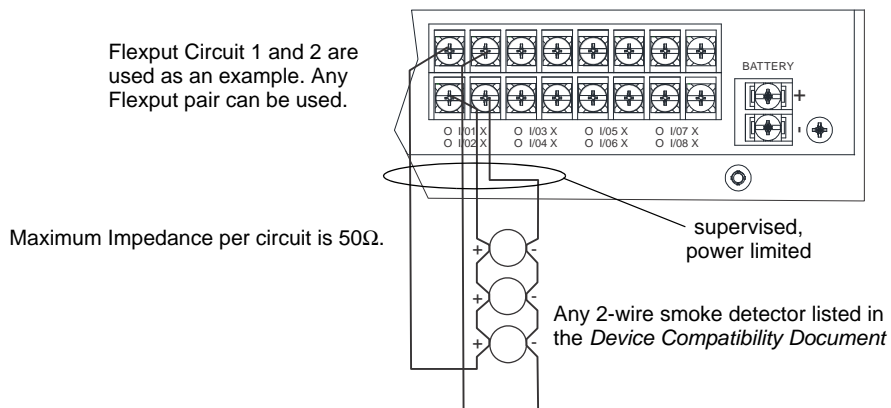

Figure 4.43 Two-Wire Class A Smoke Detector Connections
**NOTE:** In programming any point that uses multiple Flexput circuits, the lowest Flexput circuit number is used to refer to the circuit pair. For example, Figure 4.43 uses both Flexput circuit 5 and 6, so in programming it would be referred to as point 5